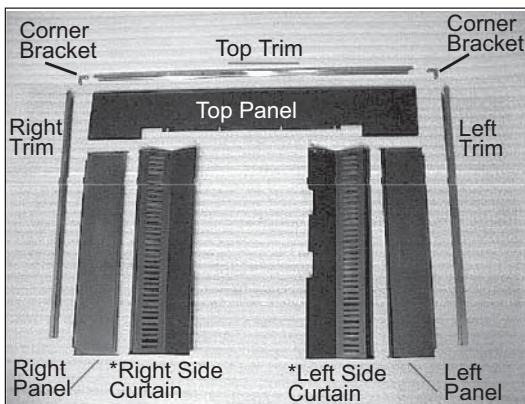

Figure 22.1
1. Unpack and lay out parts face down (flanges up) on a non-abrasive surface as shown in **Figure 22.1**. Install (1) 8-32 x 3/8 inch screw into bottom tab of side panel.